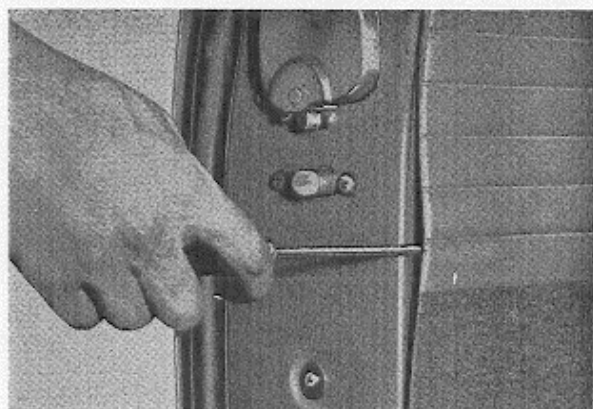

Fig. 12. Removing the door upholstery.
4. Remove the door upholstery by carefully applying a screwdriver or similar under the padded edge and then bending outwards, when the upholstery will come away, see Fig. 12.